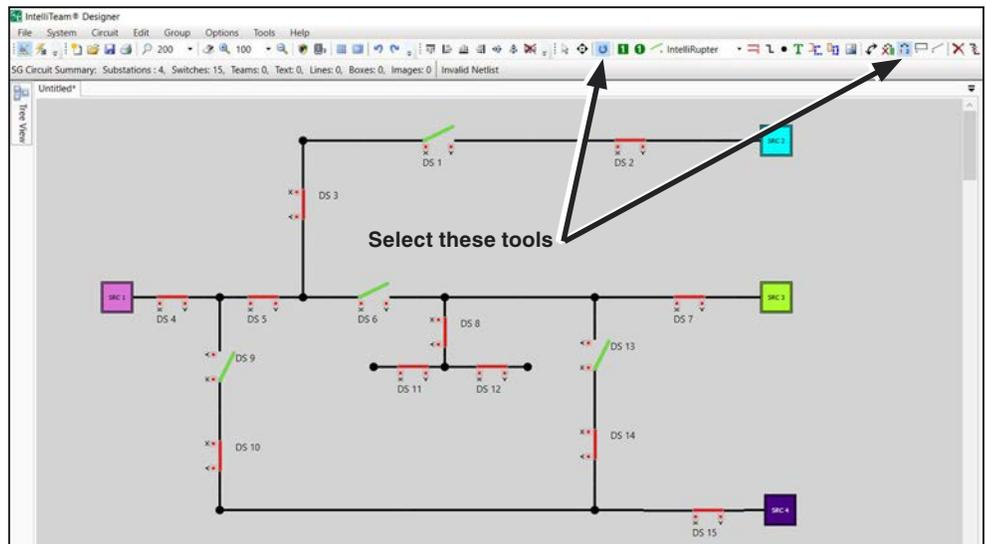

Figure 57. Set the normally open points with Repeat Insert and Toggle Switch Open/Close tools.
**Note:** Use the Toggle Terminal tool at the right of the Toggle Switch Open/Close tool to change the location of the open points. Notice that this was done for all of the vertical switches in Figure 57.
If circuit validation shows a fragmented error, use the **Trace Connections** command to display source colors and identify where the disconnect is located. See Figure 57. If the wires connected to a source remain black, this indicates these wires are not connected to the other circuit.